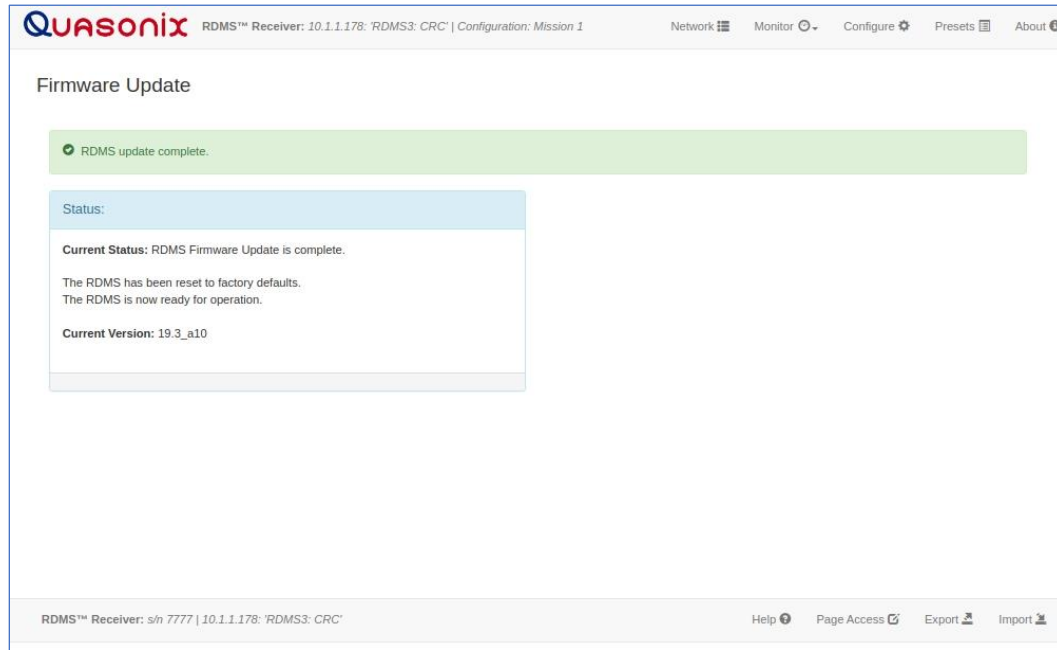

Figure 144: Firmware Update Complete
9. Upon completion, a message displays indicating the RDMS Update has completed, as shown in Figure 144.